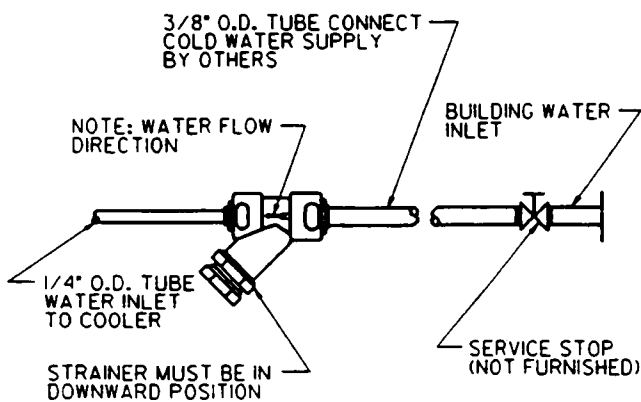

FIG. 8
6. Remove bottom access panel from fountain basin and save the screws. Install the fountain to the back panel and wall using four (4)  $\frac{5}{16}$ " x 2" (51 mm) long lag bolts and washers (not provided) through holes in back panel. Tighten securely.
8. Make water supply connections from service stop to the fountain Y-strainer. Loosen nut on inlet side of Y-strainer and insert water line to positive stop approximately  $\frac{3}{4}$ " (19 mm). Finger tighten nut to lock tubing in place. (See figure 8). Turn on water supply and check for leaks. Newly installed water supply line should be insulated after leak check is completed.
6. Remove bottom access panels from fountain basin and save the screws. Install the fountains to the back panel and wall using four (4)  $\frac{5}{16}$ " x 2" (51 mm) long lag bolts and washers (not provided) for each fountain through holes in back panel. Tighten securely.
8. Make water supply connections from service stop to the fountain Y-strainer. Loosen nut on inlet side of Y-strainer and insert water line to positive stop approximately  $\frac{3}{4}$ " (19 mm). Finger tighten nut to lock tubing in place. (See figure 8). Turn on water supply and check for leaks. Newly installed water supply lines should be insulated after leak check is completed.